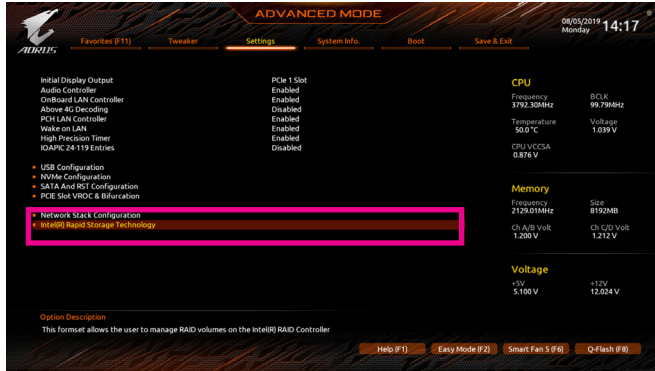

Figure 3
After the system reboot, enter BIOS Setup again. Then enter the **Settings\IO Ports\Intel(R) Rapid Storage Technology** sub-menu (Figure 3).